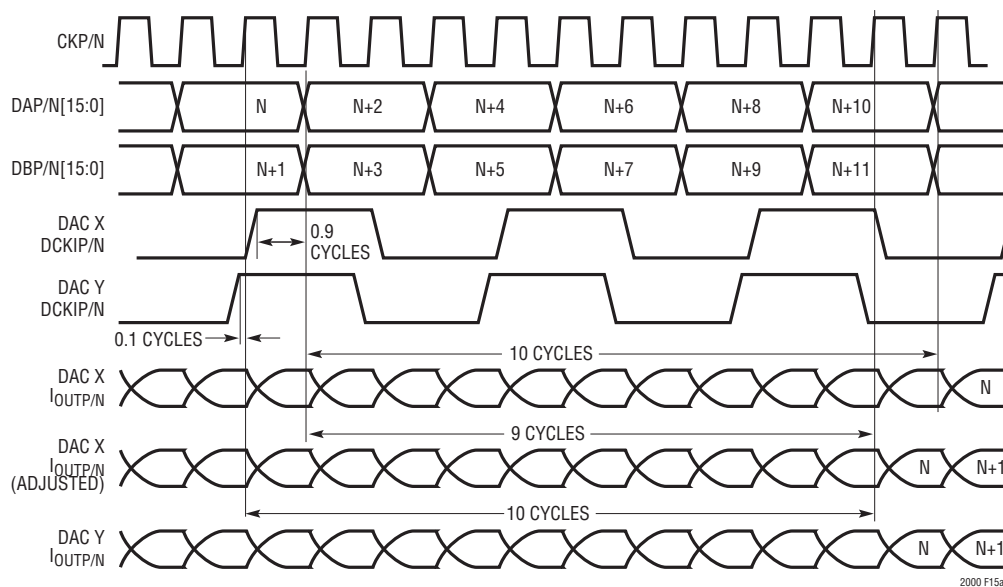

Figure 15a. Sample Waveforms — Synchronizing Multiple LTC2000s in Dual Port Mode
the default behavior is for the output of DAC Y to update with sample N one cycle earlier than the output of DAC X. It is possible to correct this misalignment and synchronize DACs X and Y by adjusting the clock synchronizer settings to subtract one cycle of latency from DAC X, as shown in the adjusted waveform at the bottom of Figure 15a. See the Clock Synchronizer section and Figure 7 for more details on the operation of the clock synchronizer.
Once all the DAC sample clocks and LVDS data clocks are aligned, determine whether any DACs are being updated one cycle late (such as DAC X in Figure 15a) by determining whether DCKIP/N is arriving at the DACs within the same CKP/N clock cycle. To do this in dual-port mode, first use the phase comparator outputs SYNC\_PH and Table 12 to determine the delay from the DCKIP/N rising edge to the next CKP/N rising edge for each DAC (measured in sample clock cycles).
Recall that the DCKIP/N timing mismatch must be kept below 0.4 cycles of the sample clock. If DCKIP/N arrives at both DACs within the same sample clock cycle, the difference in DCKIP/N to CKP/N delays indicated by SYNC\_PH will equal the actual DCKIP/N timing mismatch, and thus will be less than 0.4 cycles. If DCKIP/N arrives at the DACs within different cycles, as in Figure 15a, the difference in the delays indicated by SYNC\_PH will equal 1 cycle minus the actual DCKIP/N timing mismatch, and thus will be greater than 0.4 cycles. Thus if the difference between the delays indicated by SYNC\_PH is greater than
For the example in Figure 15a, we might read 0x25 for SYNC\_PH on DAC X and 0x52 on DAC Y. Table 12 tells us that the DCKIP/N to CKP/N delay is greater than 0.8 cycles for DAC X and less than 0.2 cycles for DAC Y, and thus the difference between them is at least 0.6 cycles. We conclude that the DCKIP/N rising edge of DAC X must fall within a later sample clock cycle than that of DAC Y, and thus that DAC X is being updated one cycle later than DAC Y.
In this example, reading register 0x06 of DAC X shows SYNC\_PH = 0x25 and that the SYNC\_PS setting needs to change from the default (10) to the desired adjusted value (00), subtracting one cycle from the latency of DAC X (refer to Table 12). Write 0x04 to register 0x05 of DAC X to set SYNC\_MSYN = 1 and SYNC\_PS = 00. The outputs of DAC X should now align with DAC Y as shown in Figure 15a. See Table 6 for details regarding the synchronizer registers 0x05 and 0x06. Sample verilog code implementing the synchronization of multiple LTC2000s using Tables 12 and 13 can be found at: